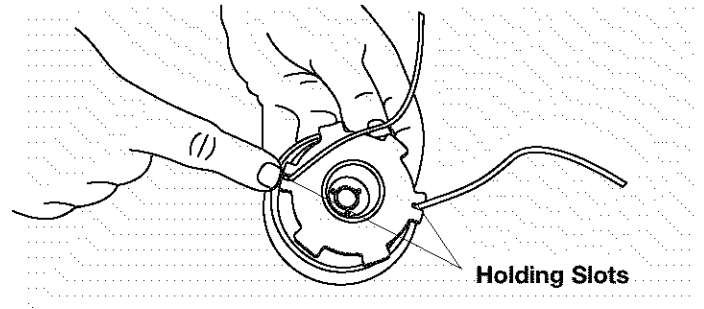

Fig. 25
4. Insert one line end into each holding slot (Fig. 25).